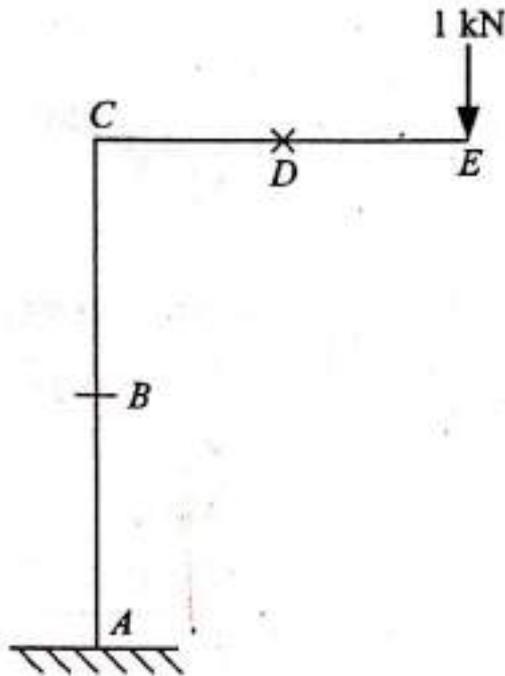

Figure 1: Frame with unit vertical load at 'E'
- Find out the expressions in Tabular form for moment ' $M$ ' due to external loads,  $m_1$  due to the unit vertical load present at the free end (Figure 1) and  $m_2$  due to the unit horizontal load present at the free end (Figure 2) of the bent.